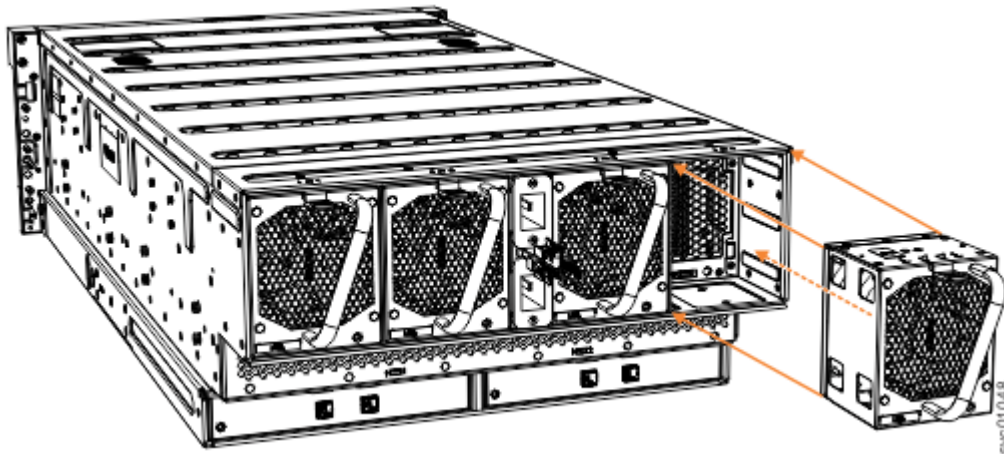

Figure 171. Remove and replace a fan module
3. Use the handle to pull the fan module out of the expansion enclosure chassis, as shown in Figure 171 on page 226.
6. Carefully insert the fan module into the chassis until it clicks in place, as shown in Figure 171 on page 226.